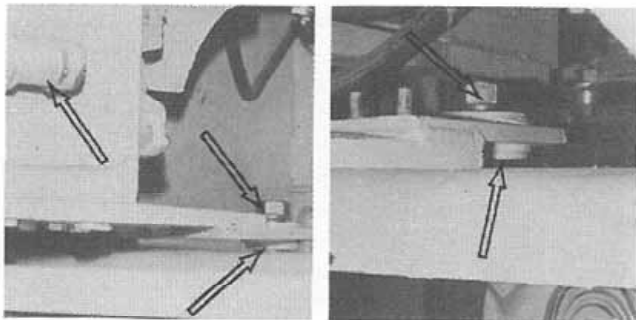

Figure 6:
8. Detach the oil return tube from the transfer case. Support the transfer case and remove the upper and lower uniball bushing bolts (Fig. 6).